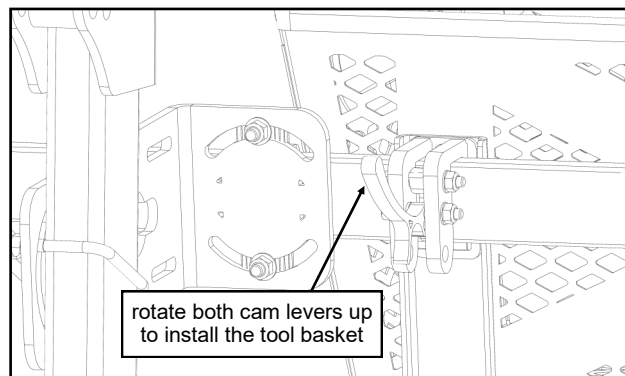

Fig. 2 (cam lever in the open position)
2. To install the tool basket, rotate both cam levers UP, then place onto the Tool Bar. See fig. 2.